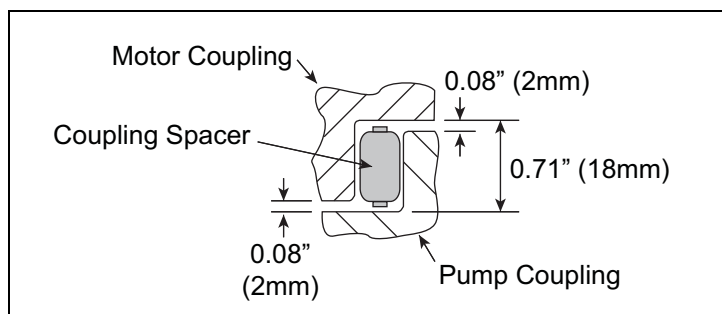

Figure 15. Setting Correct Spacing Between Motor And Pump Couplings
6. Insert the RJ DEF Motor into the RJ DEF Pump Motor Mounting Flange. The downward facing RJ DEF Motor Coupling and Spacer should mate with the upward facing RJ DEF Pump Coupling located inside the RJ DEF Pump Motor Mounting Flange. The Motor Coupling and the Pump Coupling to have spacing as shown in Figure 15.